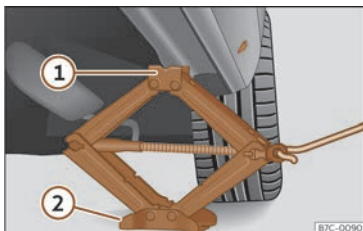

Fig. 236 Crossbar: mounting the jack on the vehicle.
- Turn the jack crank handle, located below the strut support point, to raise it until the tab ① >>> **Fig. 236** is below the housing that is provided.
- Align the jack so that the tab ① “grips” onto the housing provided on the cross member and the mobile base ② is resting on the ground. The base plate ② should fall vertically with respect to the support point ①.